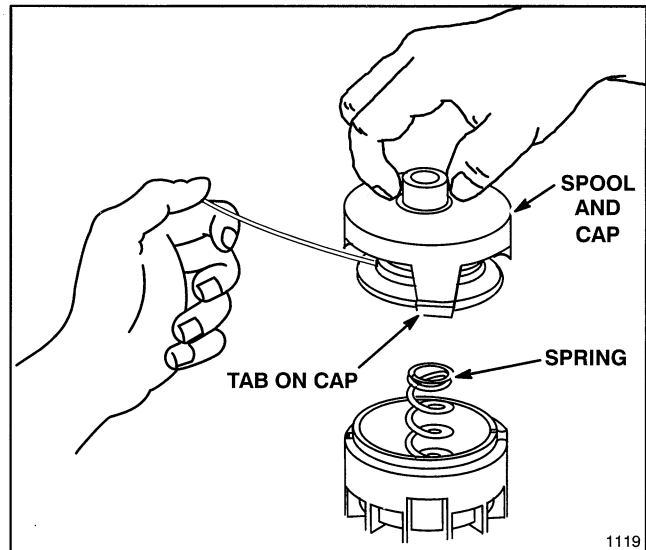

Figure 12
3. If there is any line on spool, hold free end of line with one hand to prevent spool from unraveling and with other hand grasp spool and lift off spool and cap together (Fig. 12).